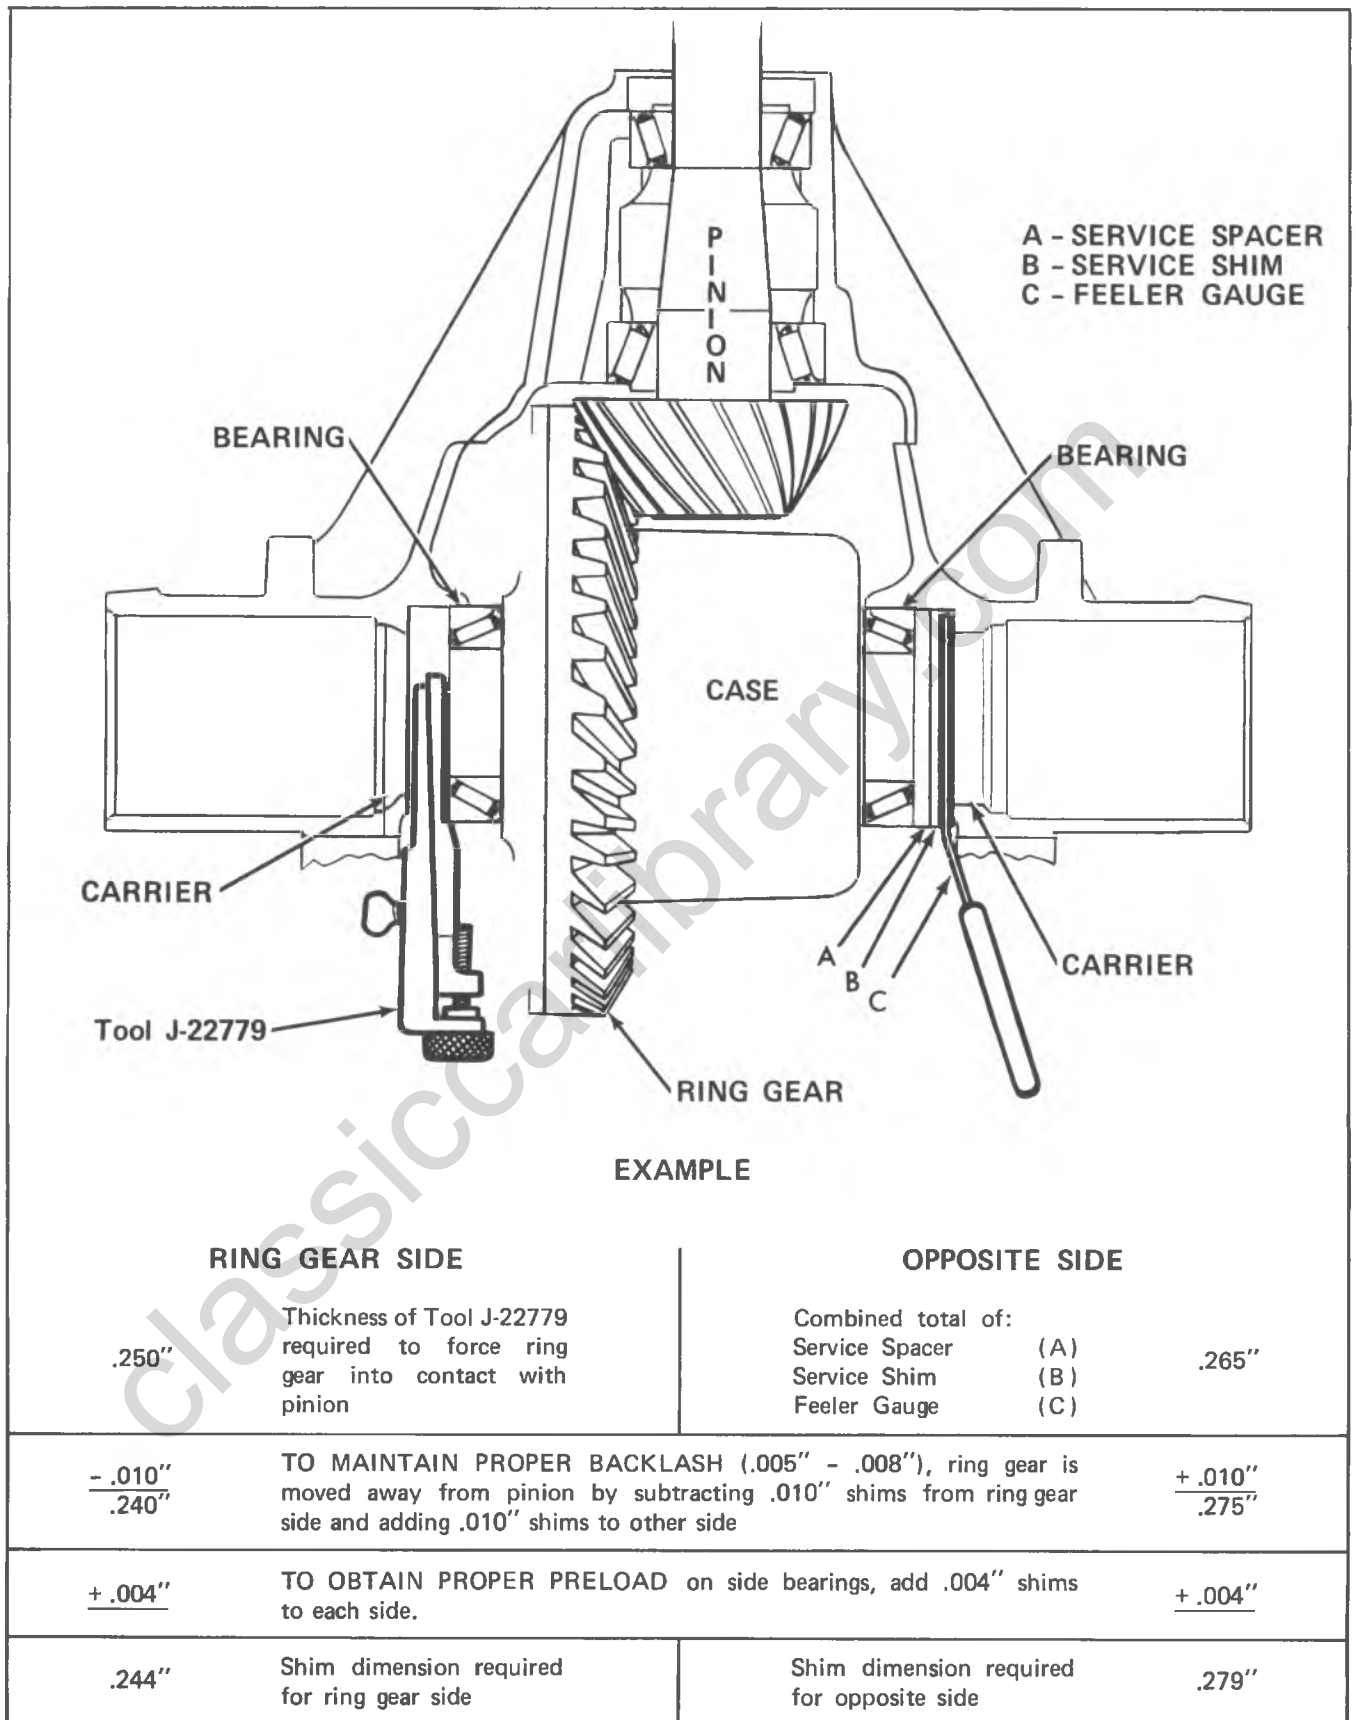

Fig. 7A—Determining Side Bearing Shim Requirements
8. Now measure the above dimensions as shown in Fig. 7A.
9. Use the sample procedure in Figure 7A to determine the proper thickness for each shim pack.